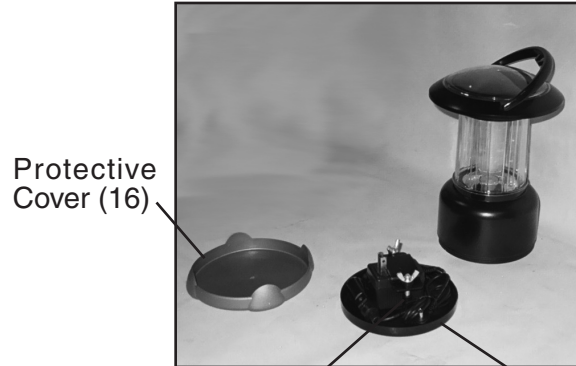

Figure 4
2. Unscrew the Bottom Cover (1) from the base of the Lantern.
3. Inside of the Bottom Cover (1) is the AC Adapter (15) held in place by the AC Adapter Bracket (13). Remove the Wing Nuts (14). Set the AC Adapter Bracket and Wing Nuts aside. Remove the AC Adapter. Use this Adapter in a household electric outlet for charging the Solar Lantern. *See Figure 4.*
4. After charging, fold up the wiring of the AC Adapter (15) and store in the Bottom Cover (1), using the AC Adapter Bracket (13) to hold it in place. With the AC Adapter Bracket in place, tighten the Wing Nuts. Thread the assembly back on the bottom of the Lantern. Replace the Protective Cover (16). *See Figure 4.*